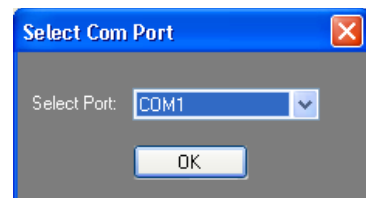

Figure 109: Com Port
2. In the *Select Com Port* window (**Figure 109**), select the proper serial port that is connected to the OmniSport console.